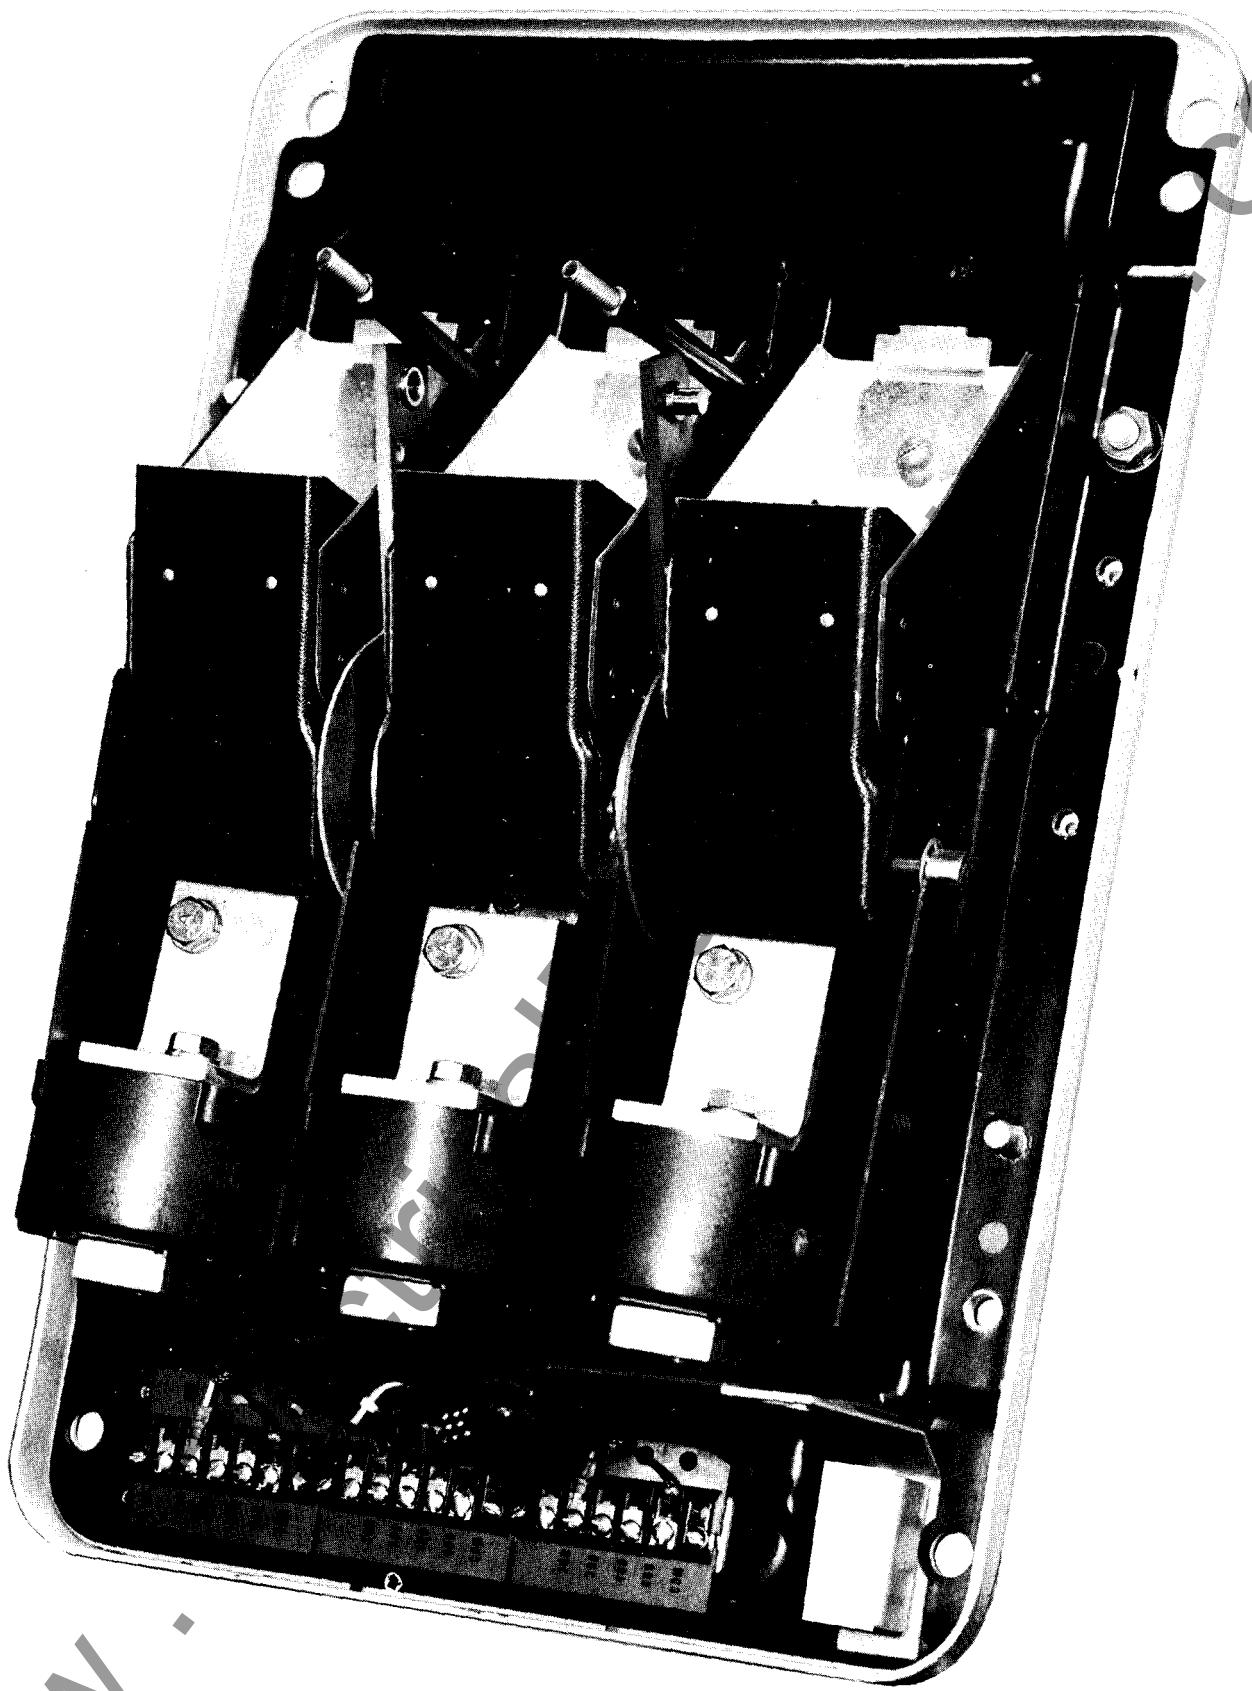
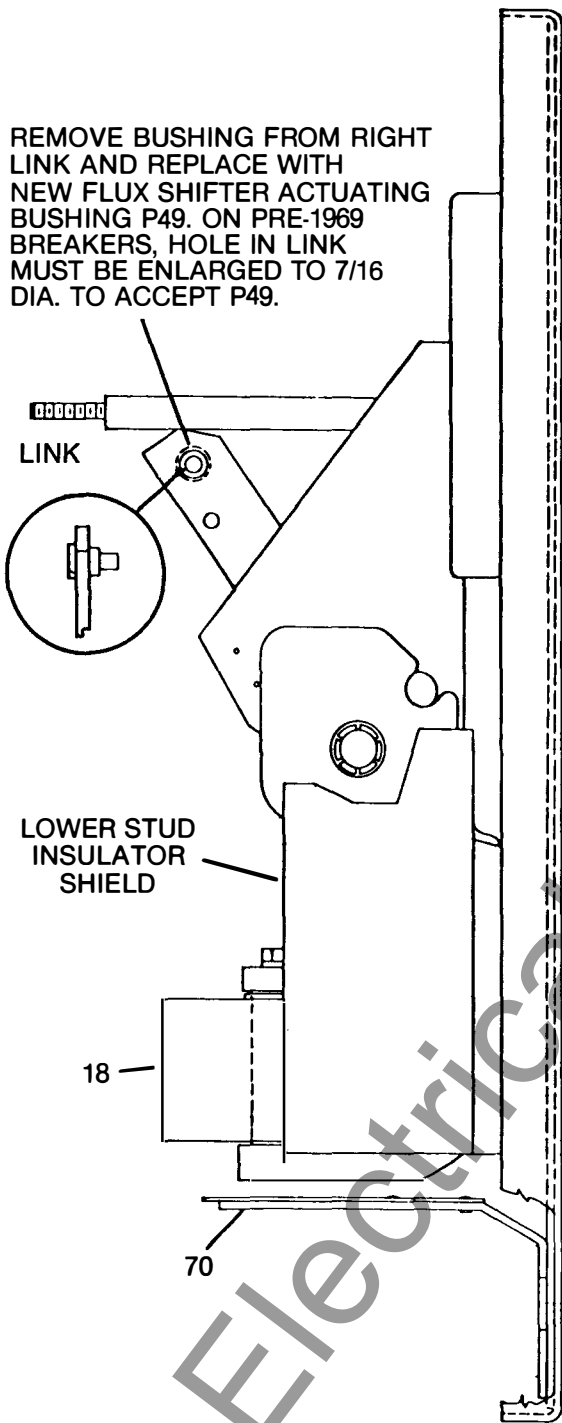

Fig. 4 — AK-25 back frame with MicroVersaTrip® RMS-9 conversion components installed and ready for reassembly to front frame.
Fig. 6 — Right side view of back frame
This step completes conversion of the back frame — see example illustrated in Fig. 4.
10. Referring to Fig. 6, install flux shifter actuating bushing 49 in the right hand operating link, enlarging the link hole if necessary. See Fig. 4 also.